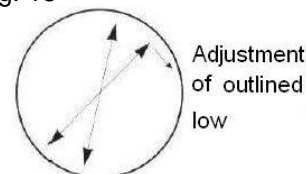

fig. 19
f) Make sure the pool is round before starting the next step, fig. 19. Check that the guides are an exact circle that fits the circumference drawn previously in the step PREPARING THE AREA BEFORE INSTALLATION.